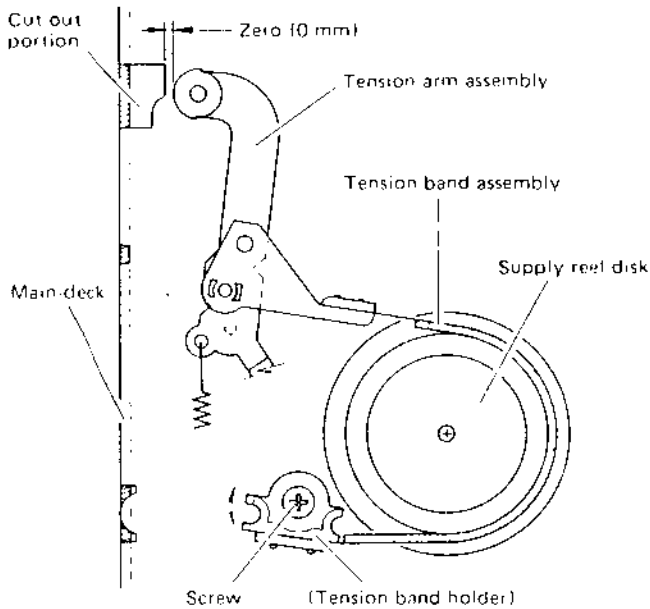

Fig. 1-4-1 Tension pole position
2. Loosen screw a little bit, then adjust the tension band holder so that the distance, shown in Fig. 1-4-1, becomes zero (0 mm).